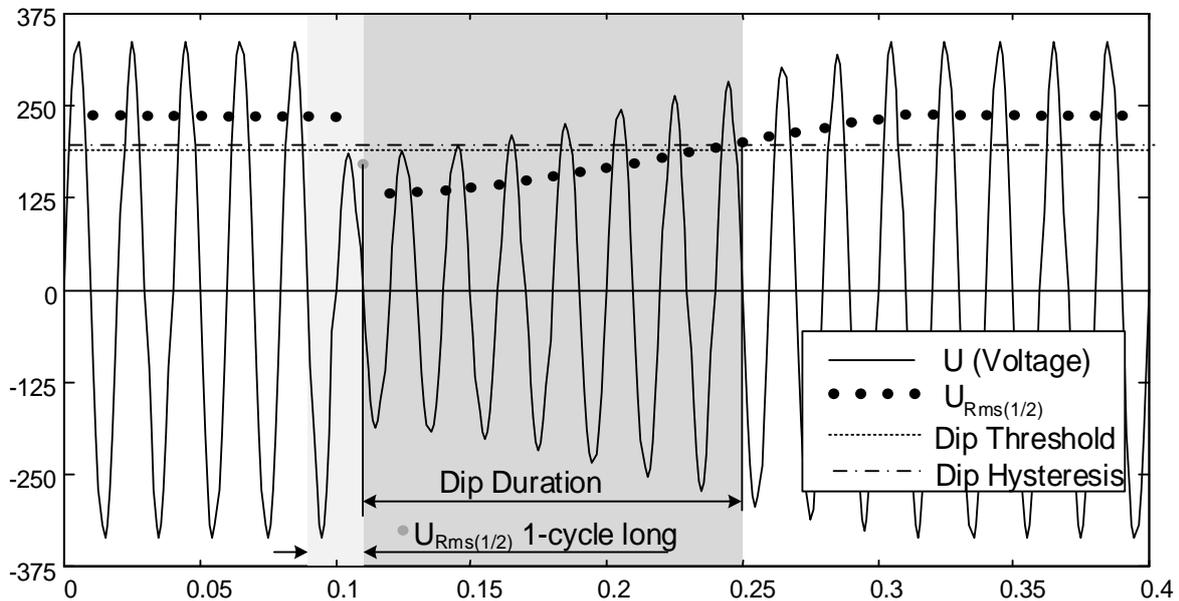
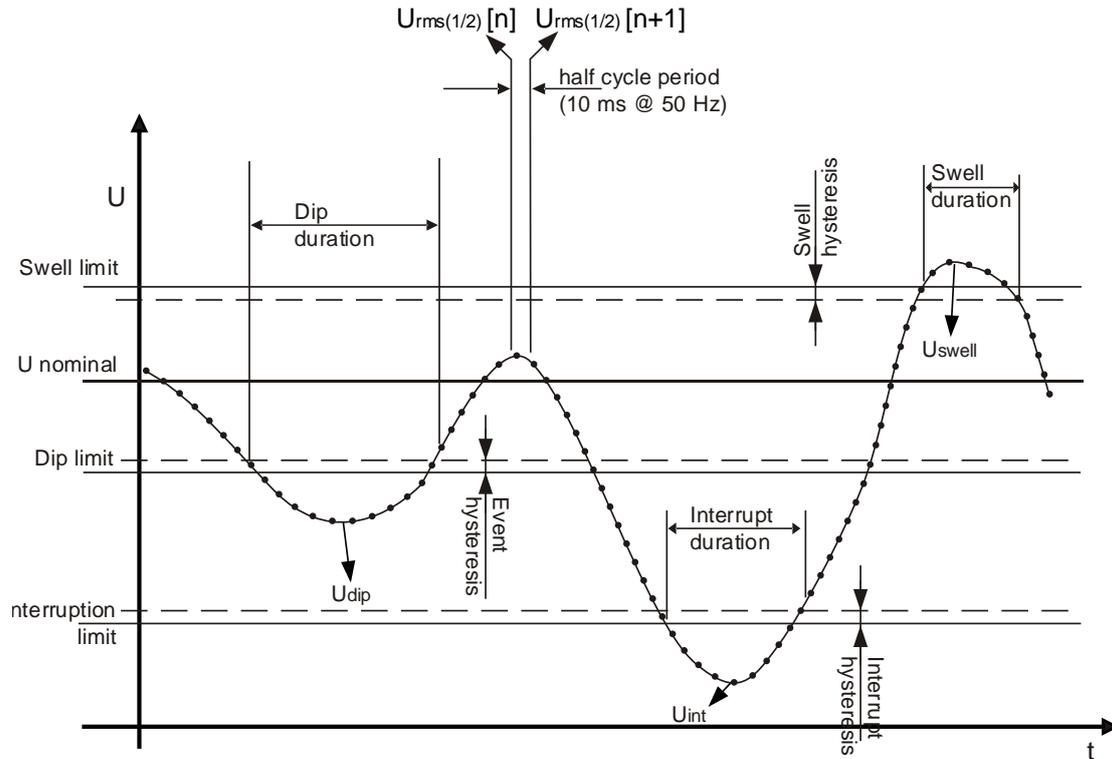

Figure 5.9: $U_{Rms(1/2)}$ 1-cycle measurement
Figure 5.10 Voltage events definition
- On single-phase system (Connection type: 1W), a voltage dip begins when the $U_{Rms(1/2)}$ voltage falls below the dip threshold, and ends when the $U_{Rms(1/2)}$ voltage is equal to or above the dip threshold plus the hysteresis voltage (see Figure 5.10 and Figure 5.9).
- On single-phase system (Connection type: 1W), a voltage swell begins when the $U_{Rms(1/2)}$ voltage rises above the swell threshold, and ends when the $U_{Rms(1/2)}$ voltage is equal to or below the swell threshold plus the hysteresis voltage (see Figure 5.10 and Figure 5.9),
- On single-phase system (1W), a voltage interruption begins when the $U_{Rms(1/2)}$ voltage falls below the voltage interruption threshold and ends when the $U_{Rms(1/2)}$ value is equal to, or greater than, the voltage interruption threshold plus the hysteresis (see Figure 5.10 and Figure 5.9),